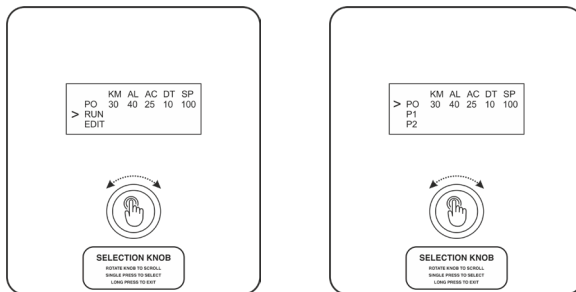

Fig. No. 25.2
**3. PRESET MENU** (Ref. Fig. No. 25.2)